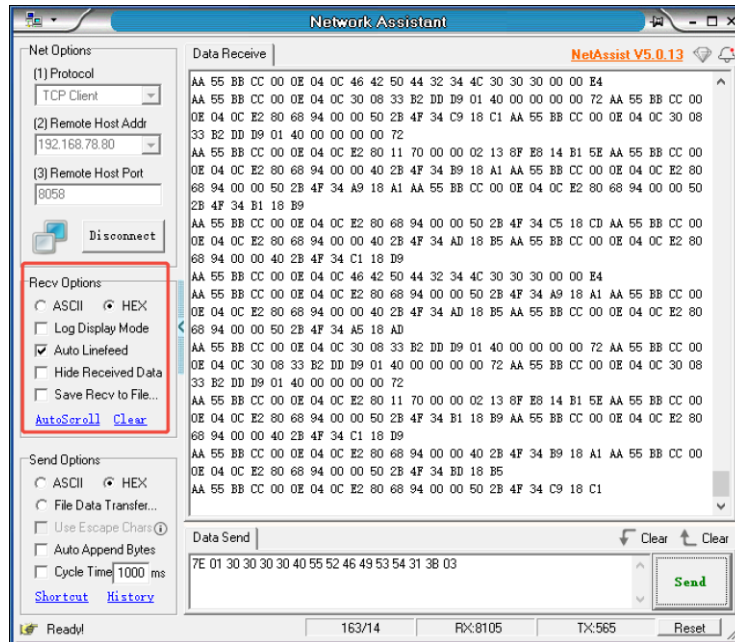

图 3-2
- (3) The host uses a network debugging tool as a TCP client, as shown in Figure 3-2. Set the remote host address to the IP of the URF device, set the remote host port to 8058, open the connection. Once the connection is successfully established, communication can proceed.